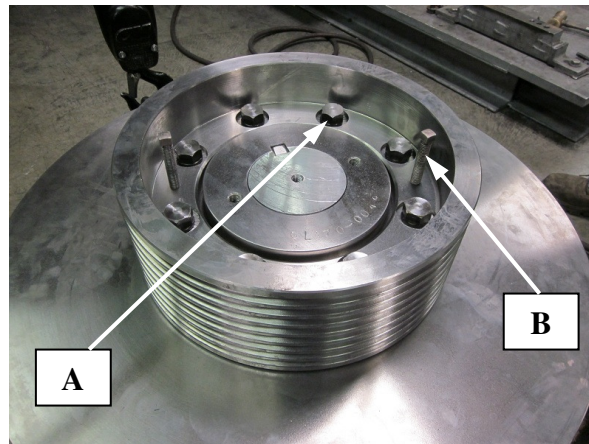

Figure 2
- Remove all of the sheave body bolts "A" using an impact driver and install the sheave jack bolts "B." Refer to Figure 2.